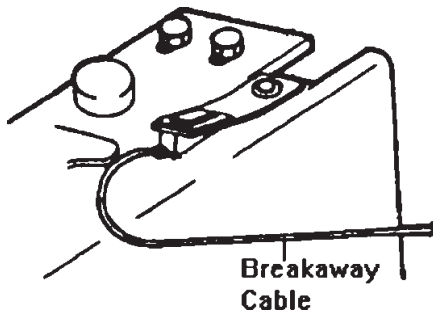

Figure P10: Breakaway Cable
8. Make sure breakaway cable is in released position with indicator bead touching or resting against cable spring stop. See Figure P10.